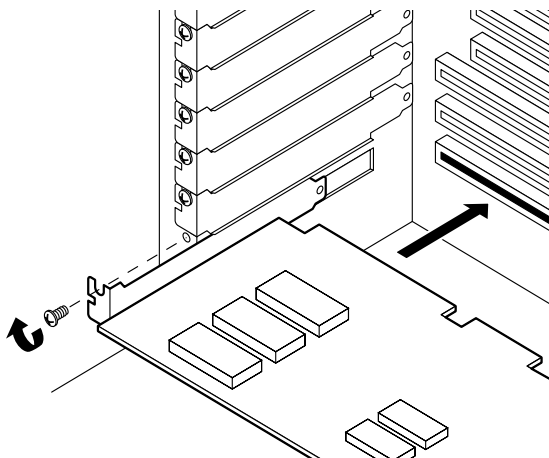
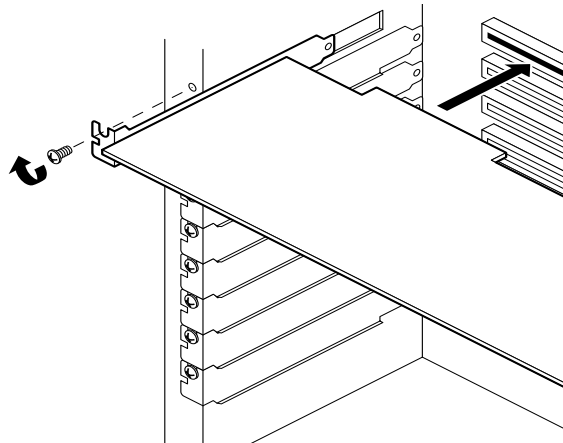

Figure 7-10. Installing an ISA Add-in Board, Component-side Up
Figure 7-11. Installing a PCI Add-in Board, Component-side Down
5. Hold the board by its top edge or upper corners, and firmly press it into an expansion slot on the system board (Figure 7-10 or Figure 7-11).